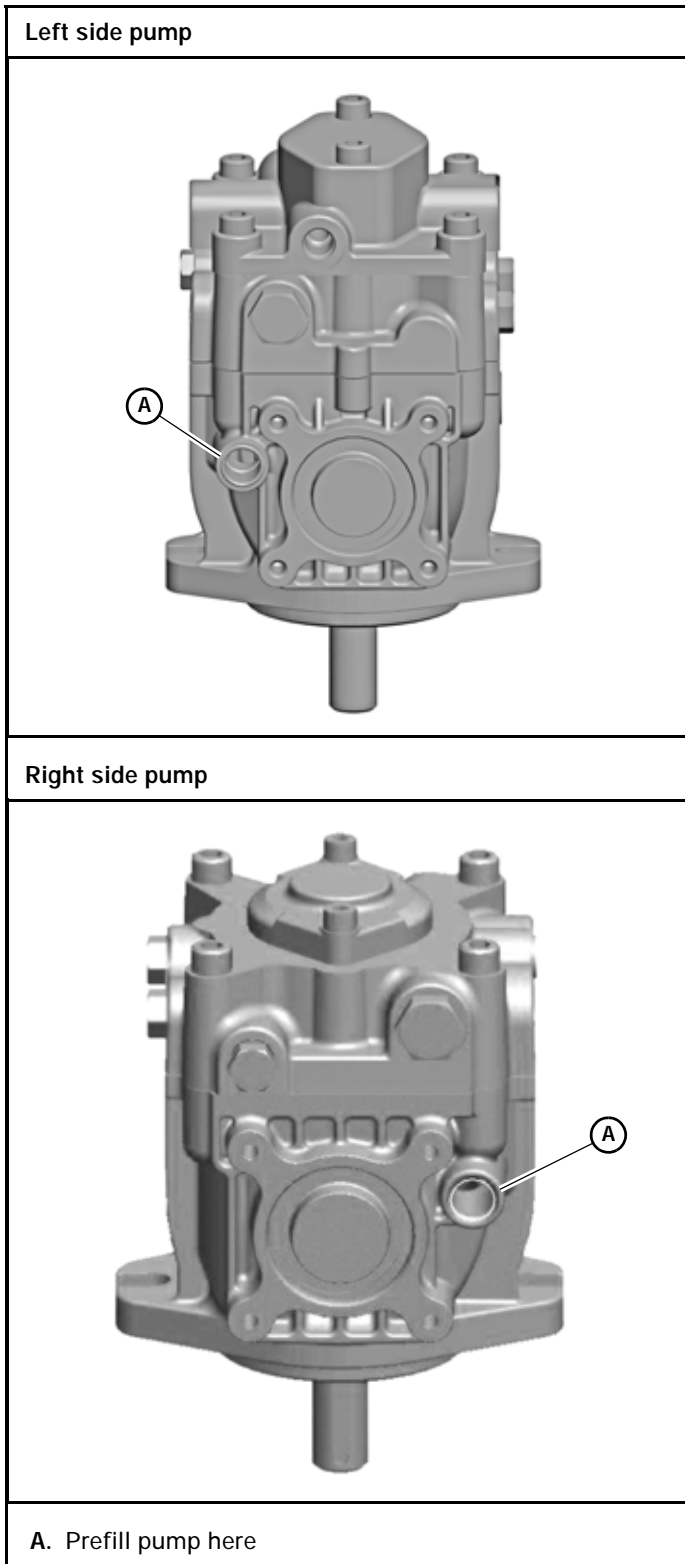

Figure 4-26
oil or 20W50 synthetic oil (Hustler® Full Synthetic 20W50 Hydrostatic Transmission Oil is recommended), then install the hose fitting. Figure 4-26
15. **IMPORTANT:** With the engine off, disconnect the two female spade connectors from each other (from step #3) and reconnect them to the seat switch. This must be completed so that the safety circuit is functioning properly. Figure 4-26